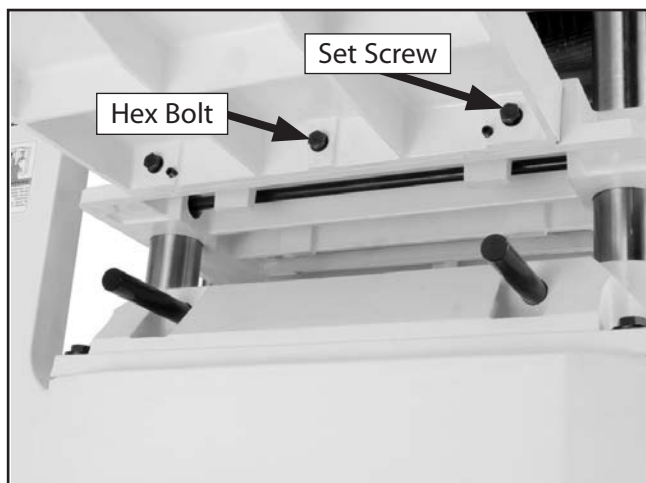

Figure 13. Extension wing installed.
3. Install (2) M8-1.25 x 20 set screws into each wing. Refer to **Figure 13** for location.